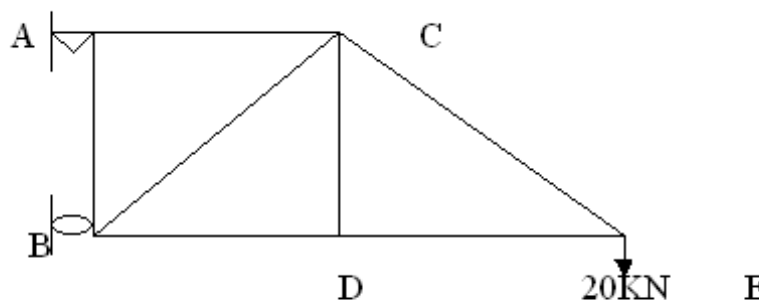

Figure 4
- A is hinged, B roller support, $AB = AC = BD = DE = L = 2 \text{ m}$. Find the vertical deflection for the structure as shown in (figure 4), under a load of 20 kN using Castiglino's theorem. $L = 2 \text{ m}$, area of each member is 100 mm^2 , $E = 2 \times 10^5 \text{ N/mm}^2$ [16]